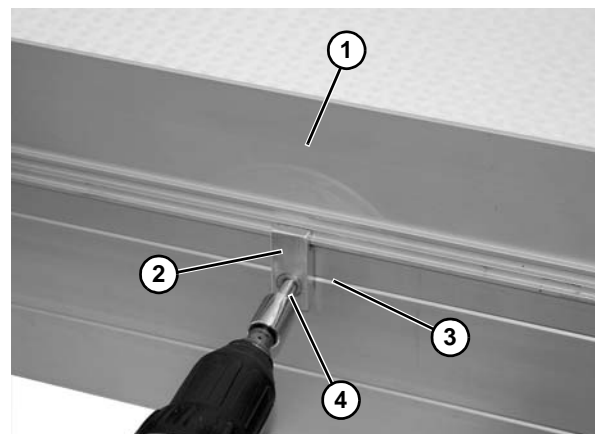

Figure 22
1. Locate guide (Figure 22, item 1) and retaining clip (Figure 22, item 2) and hold to side rail. Hole should line up with notch (Figure 22, item 3) in side rail.
2. With a cordless drill or equivalent install self-drilling screw (Figure 22, item 4). Use high speed setting to drill through side wall. Once the tap portion is started switch drill power to a lower speed. Do not fully tighten with drill.